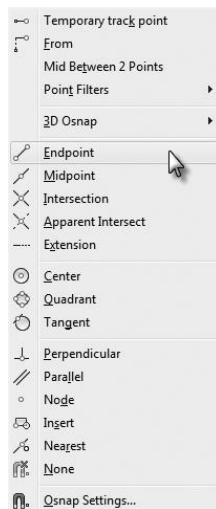

FIGURE 4.48: Select the *Endpoint* osnap from the *Object Snap* context menu.
6. Click the *Endpoint* option, as shown in Figure 4.48, to activate the *Endpoint* osnap.